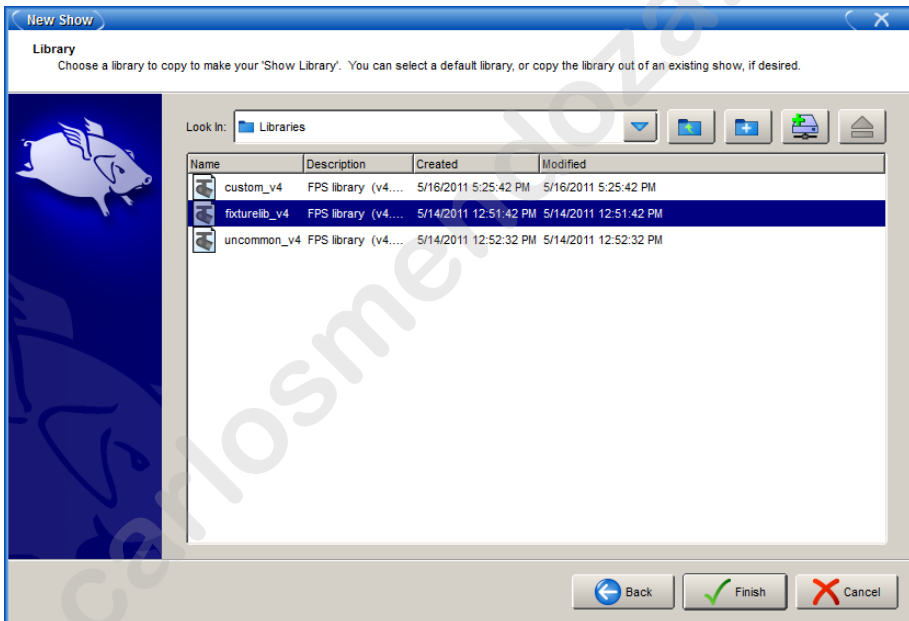

Figure 6.3. The Start Window
1. Once the console is switched on, the Start window will appear (see *Figure 6.3*, “The Start Window”). Press the Touchscreens button.
The Wholehog OS Start window (see *Figure 6.3, “The Start Window”*) gives you the option to Launch New Show, as well as launch existing shows or join one currently running over a network.